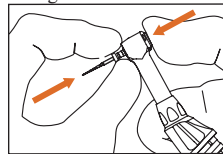

Figure 2
2.2.1 Insertion Voir la figure 2.